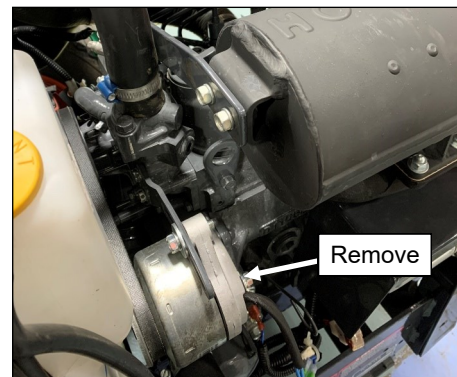

Fig. 2.1a (Remove Dynamo)
- 2.1 See figures 2.1a and b. Remove the OEM dynamo from the vehicle then remove and discard the OEM shaft, flat washer, lock washer, and hex nut. A new shaft and hardware is supplied. Save the OEM dynamo, rotor washer, rotor cap, and washer.